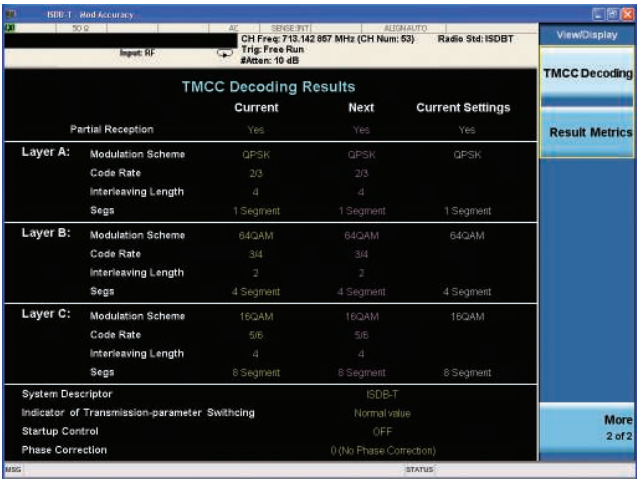

Figure 16. Modulation accuracy measurement with TMCC decoding view
View the TMCC decoding results (Figure 16)	[View/Display] {TMCC Decoding}
- **TMCC decoding** view (Figure 16): This view displays TMCC decoding results and the corresponding current settings.